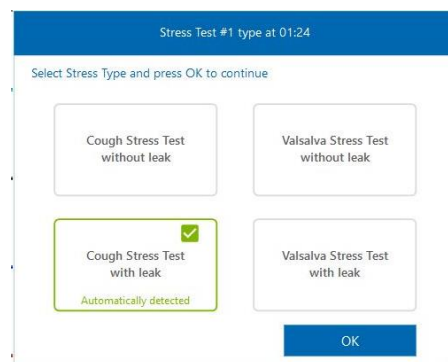

Figure 25: Stress Test Designation Window
5. Synergy automatically assigns each stress test based on events marked within the range. To change the assigned type designation, select the option and press **OK** (Figure 25). Changing the designation will add or remove the events marked in the stress test.